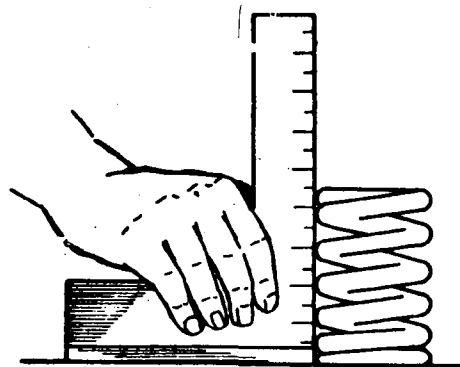

Fig. 1
- a) Place the spring beside a square on a flat surface (Fig. 1).
- a) Place the spring on a flat surface beside a rule or a graded square (Fig. 1).